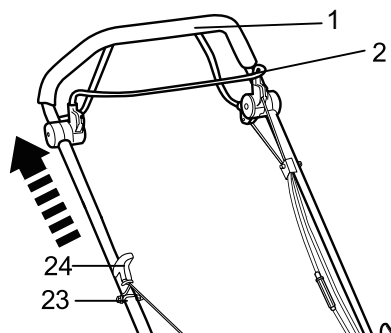

Fig. 13
1. Pull the brake bar (2) towards the handle (1).
2. Slowly pull on the recoil starter handle (24) and fit it into the rope guide (23) on the right hand side of the upper handle (4) during operation. Do not remove the rope from the rope guide when starting the engine (Fig. 13).